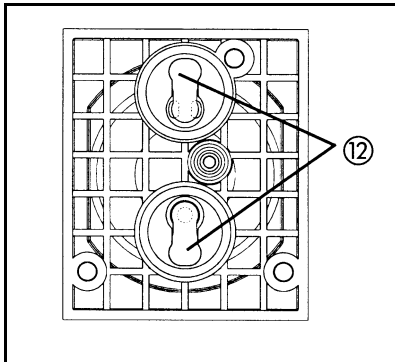

Fig. 17: Position of valve plates (12)
1. Mark the position of head plate (9) and intermediate plate (10) relative to each other by a drawing line with a felt-tip pen. This helps avoid incorrect assembly later.
2. Mark the position of head plate (9) and intermediate plate (13) relative to each other by two drawing lines with a felt-tip pen.
3. Mark the position of head plate (9) and intermediate plate (14) relative to each other by three drawing lines with a felt-tip pen.
4. Undo the three screws (6) in head plate (9) and remove head plate from intermediate plates (10), (13) and (14).
5. Remove valve plates (12) and O-rings (11) from intermediate plates (10), (13) and (14).
- i** Instead of lying on intermediate plate, O-rings could stick to head plate (9).
6. Lay the new valve plates (12) and the new O-rings (11) on the intermediate plates (10), (13) and (14).
- i** Upper and lower sides of the valve plates are identical. For correct position see fig. 17.
Replaced diaphragms and valve plates.	<p>→ Check that the correct diaphragm spacers are placed under the diaphragms.</p> <p>→ If necessary, carefully tighten the pump head fixing screws (Fig. 17/2, p. 36) in diagonally opposite sequence.</p>
Overcurrent protection of vacuum pump system has been activated.	<ul style="list-style-type: none"> ➔ Reset by switching the vacuum pump system off and back on. ➔ Check that there is no object blocking the pump fan (Fig. 17/20, p. 36) and make sure that adequate supply and removal of cool air is provided. ➔ Find and eliminate any other cause of pump overload.